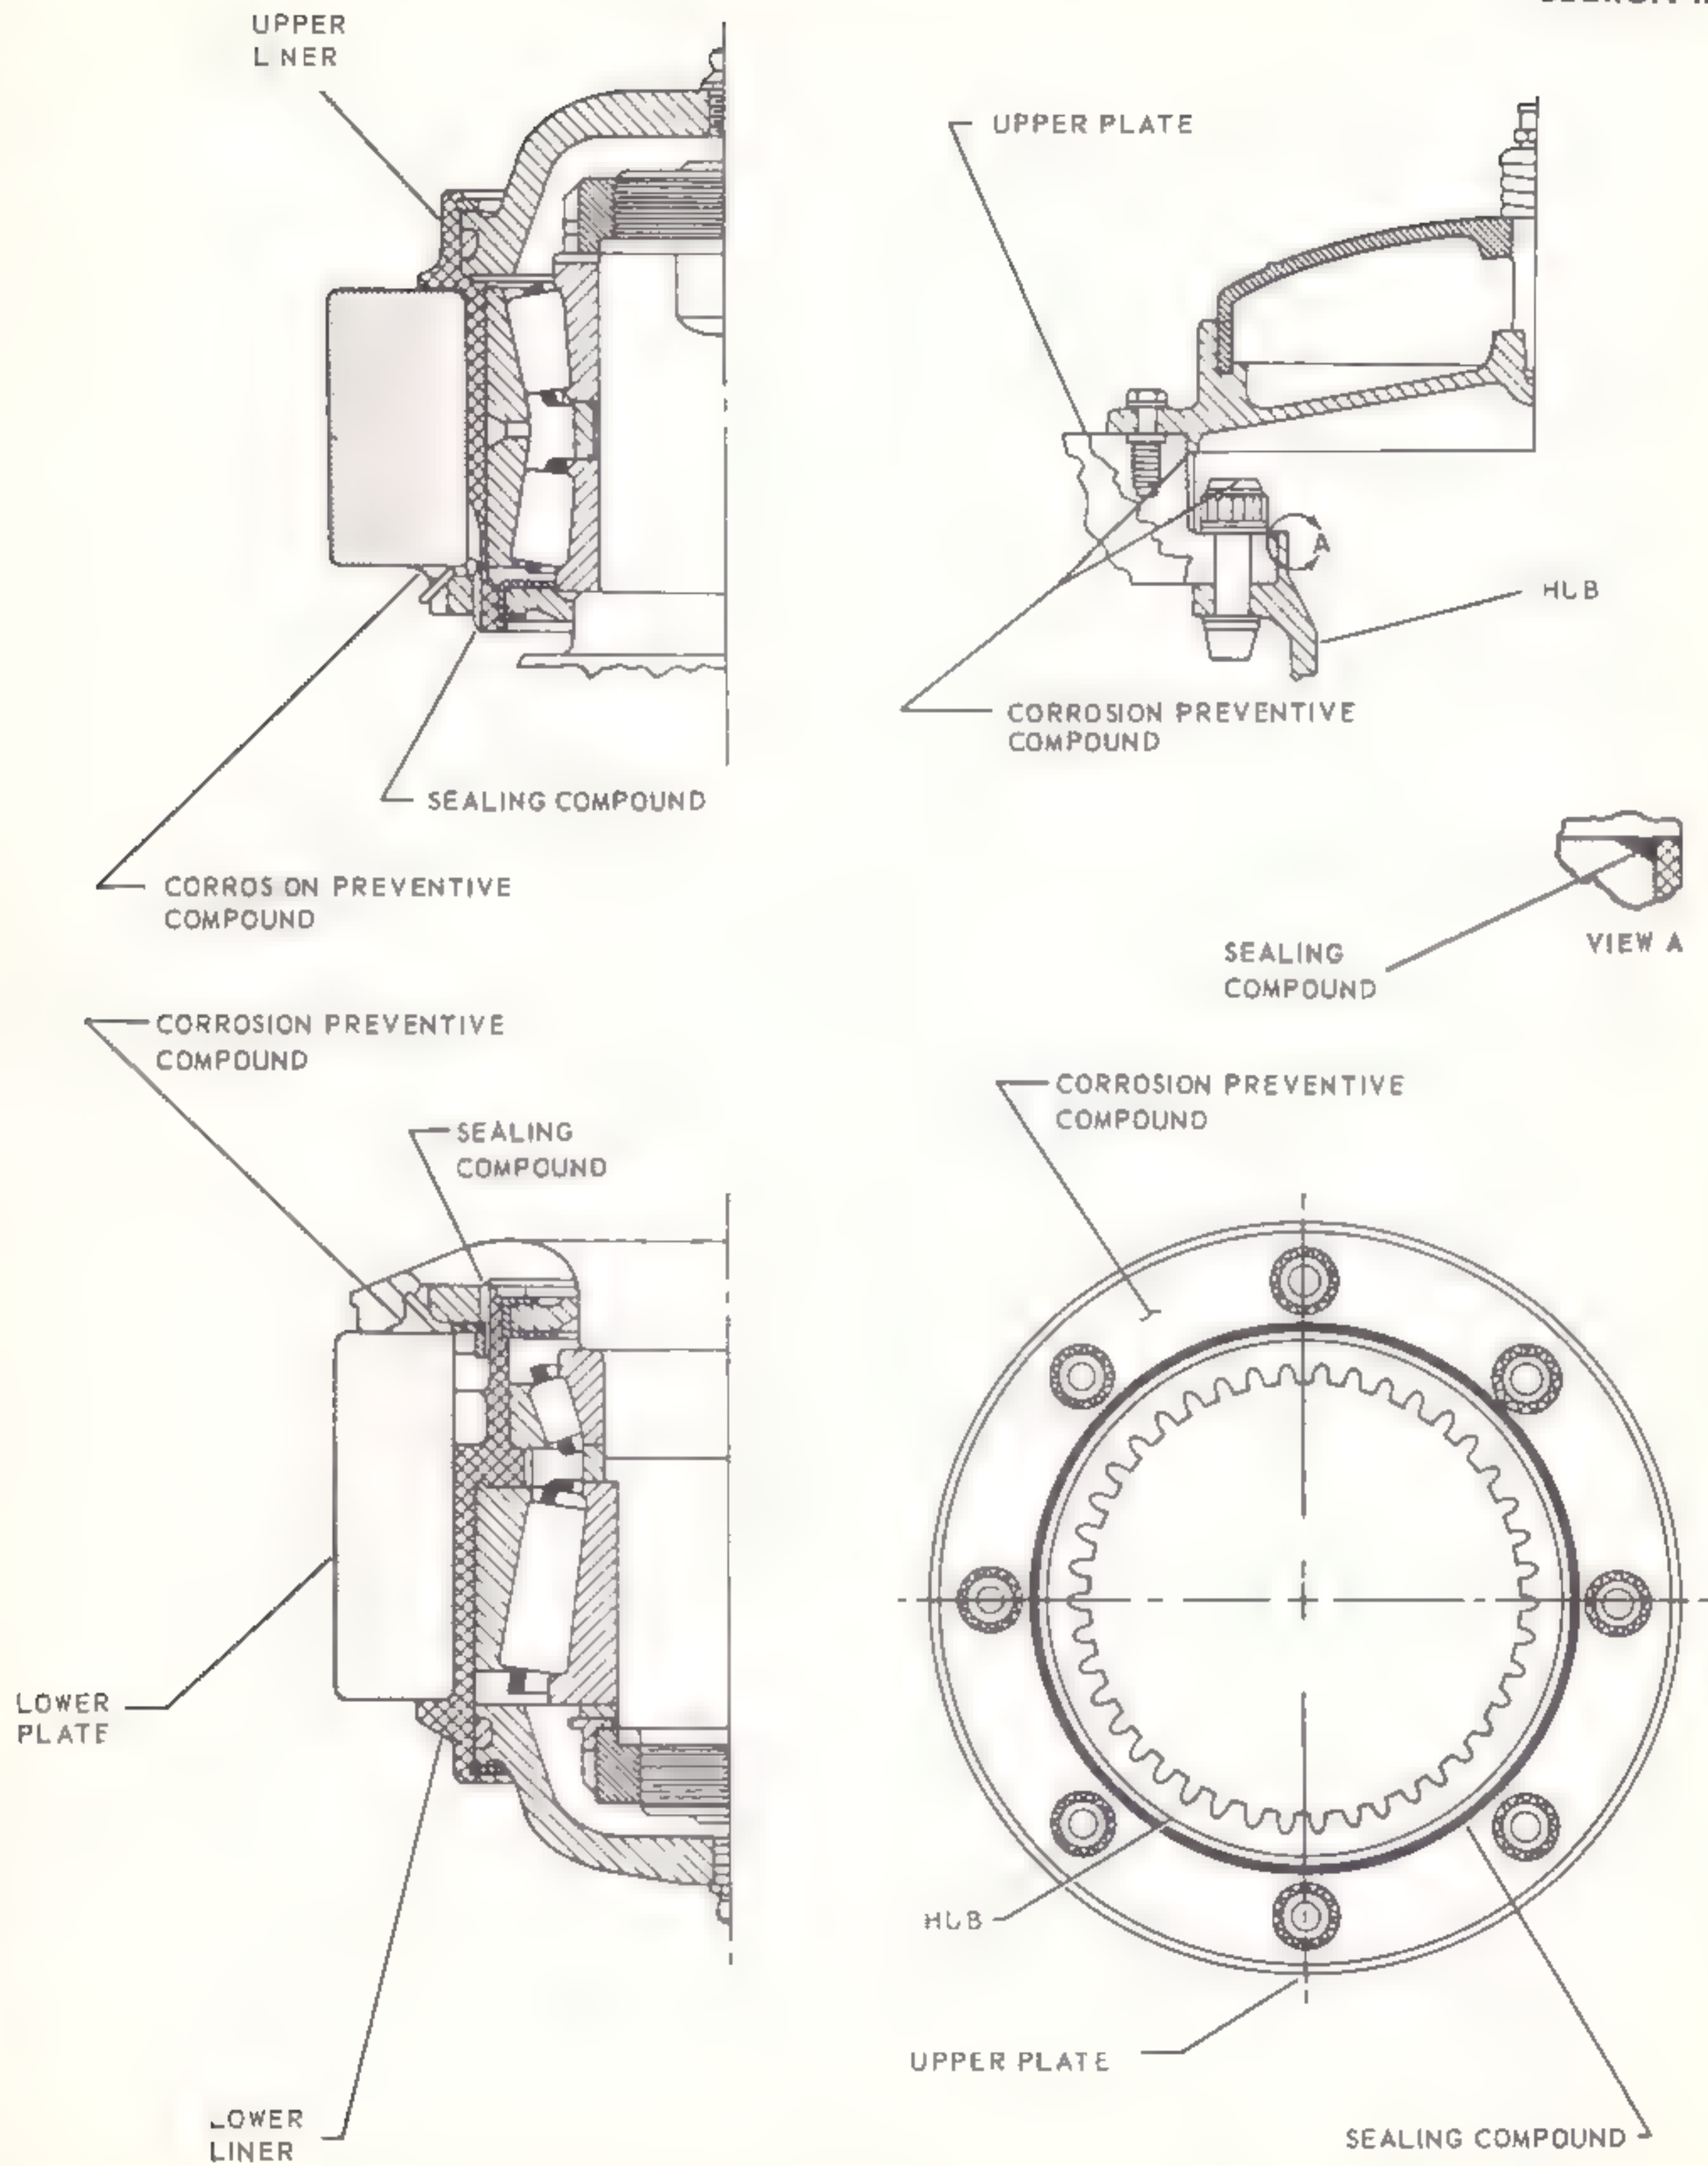

Figure 8-3. Corrosion-preventive measures — main rotor head assembly
(3) Replace fluid tank assembly in accordance with instructions given in paragraph 8-11g.
8-10. *Special Precautions to Prevent Corrosion.* a. Force sealing compound (item 34, table 1-8) into area between upper plate and hub. (See figure 8-3.)
b. Clean and coat bolt ring section of upper plate adjacent to hub bore area with corrosion preventive compound, grade 1 (item 24, table 1-8). (See figure 8-3.)
c. Force sealing compound (item 34, table 1-8) into keyways of liners to prevent moisture from entering. (See figure 8-3.)